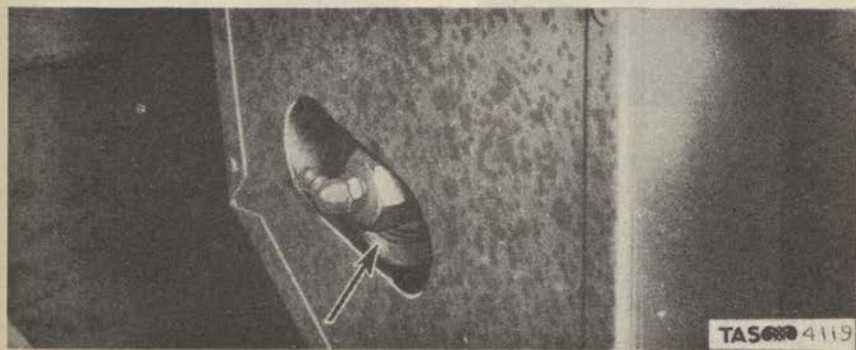

Figure 184. Agitator Chain Tightener.
e. Idler sprockets and chain drives. Too tight a chain causes rapid wear while too loose a chain will climb the sprockets. Keep the chains adjusted tight enough to prevent them from slapping against the metal guards. Chains are tightened by loosening the idler sprocket adjusting nut (fig. 184), moving it forward, and retightening. Sprockets must be kept in proper